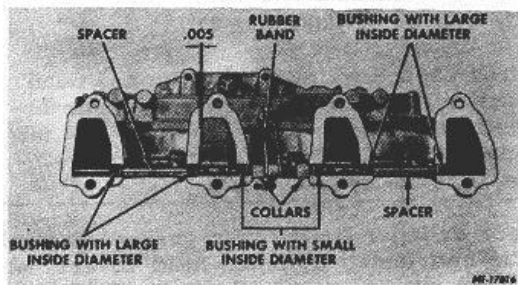

Fig. 179 Swirl Destroyer Shaft Details (Early Production Engines Only)
used over the sleeves on the shaft, while the bushings having the smaller inside diameter are used directly on the shaft (Fig. 179).
- b. Position swirl destroyer shaft and plates in intake manifold ports. Slide shaft endwise until one of the plates contacts the manifold. Back off shaft to obtain 0.12 mm (.005 inch) clearance between plate and manifold (Fig. 179). Adjust collars against manifold, allowing shaft to rotate freely, then tighten setscrews and locknuts.
- c. Install rubber band to hold swirl destroyer shaft in manifold (Fig. 179) to permit assembling manifold to cylinder head.